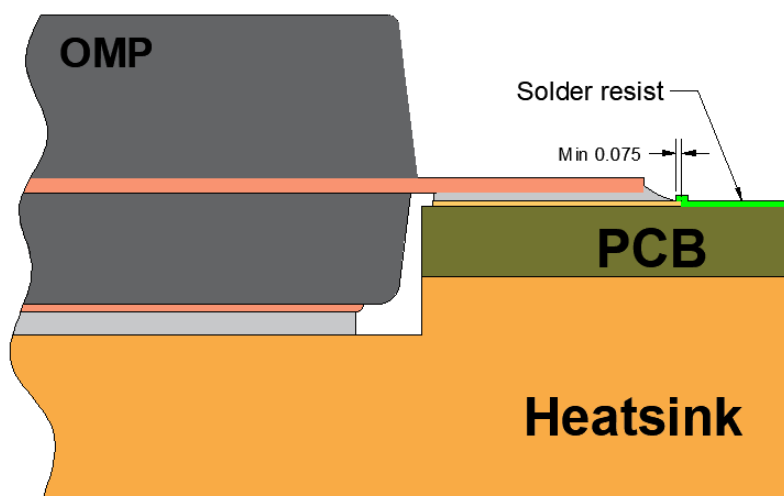

Figure 19. SMD cross section view OMP straight leads package
- Solder mask defined (SMD) the solder mask overlaps the underlying metal pad, which is slightly larger than the solder mask opening (Figure 19).